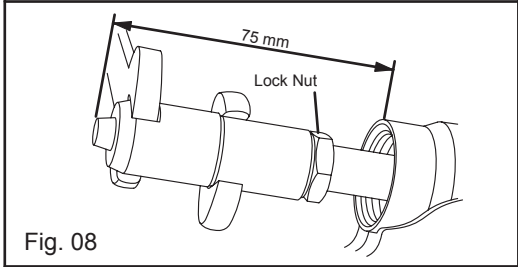

Fig. 08
4. Use jaw spanners SW 17 and SW 15 to unscrew or replace chuck jaws or chuck jaw seats. Remove old chuck jaw from chuck jaw seat and replace (Fig. 08).
5. **Do not loosen or remove the lock nut! The distance of 75mm between the tip of the chuck jaw and the casing must be kept, as shown in Fig. 08. Damages due to noncompliance are excluded from the warranty.**